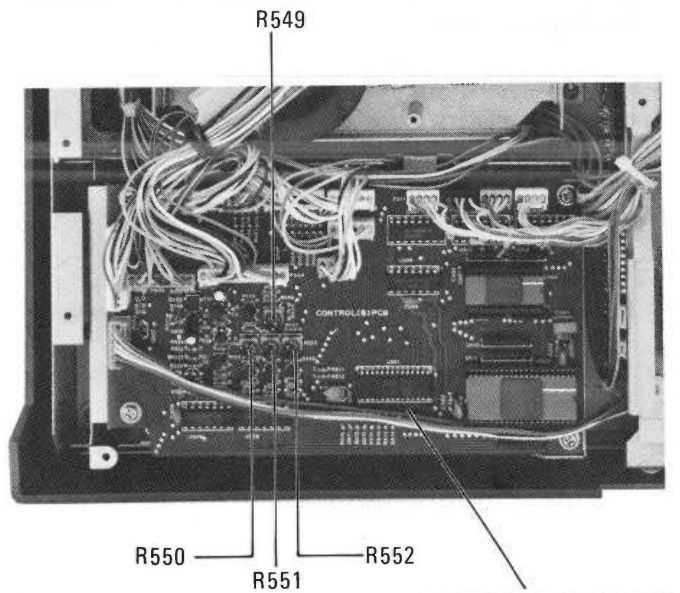
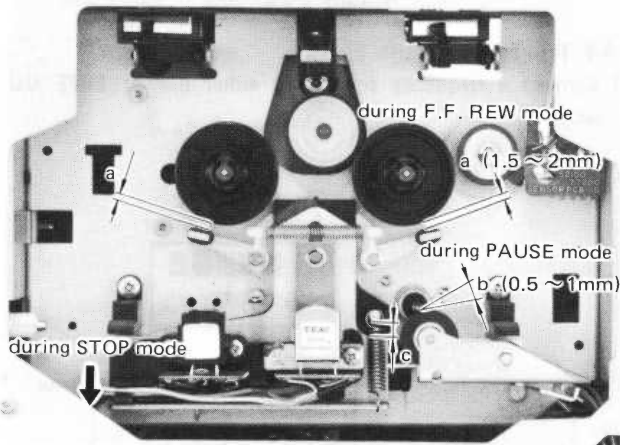
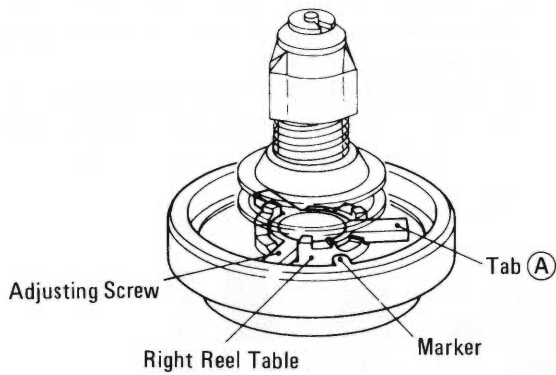

Fig. 4-4-2
Fig. 4-4-3
Fig. 4-4-5
- 2) Turn the reduction pulley with your hand and observe whether the head base comes to the same position as noted or exceeds the position. If exceed, adjust the trim pot 552. (Refer to Fig. 4-4-2)
Run the deck in the FF or RWD mode and make sure a clearance between each brake drum and the brake pad is approx. 1.5 to 2 mm. If not, adjust R550. (Refer to Fig. 4-4-2) After the adjustment has been completed, repeat switching operations from the STOP to FF or RWD two or three times and make sure the clearance "a" is within the specified range. If the "a" is not within 1.5 to 2 mm, adjust R550 again. Refer to Fig. 4-4-3.
Set the deck to PAUSE mode and observe the clearance "b" between the pinch roller and capstan shaft. It should be approx. 0.5 to 1 mm. If not, adjust the trim pot R551 (Refer to Fig. 4-4-2). After completion of the adjustment, repeat switching operations from STOP to PAUSE mode two or three times, and make sure the clearance "b" is within the specified range. Also make sure there is a clearance "c" between the head base and a spring stud. (Refer to Fig. 4-4-3)
Load a cassette torque meter instead of a cassette tape in the cassette holder, and run the deck in PLAY mode. Take-up torque of the right reel table should be 40 – 50 g. If not, adjust the trim pad R549 (Fig. 4-4-2) to read 45 g-cm. After completion of the adjustment repeat the STOP and PLAY mode operations 2 to 3 times, and then make sure the torque reading is within the limits. Back tension torque (left reel table) should be 2 to 4 g-cm. If the torque is still out of the limits, adjust the torque adjusting ring provided on the right reel table. The torque can be adjusted in three values as shown in Fig. 4-4-5. Turn the torque adjusting ring with the tab A pulling slightly upward and place the tab on one of three stepped portions having pawls to fix the tab.